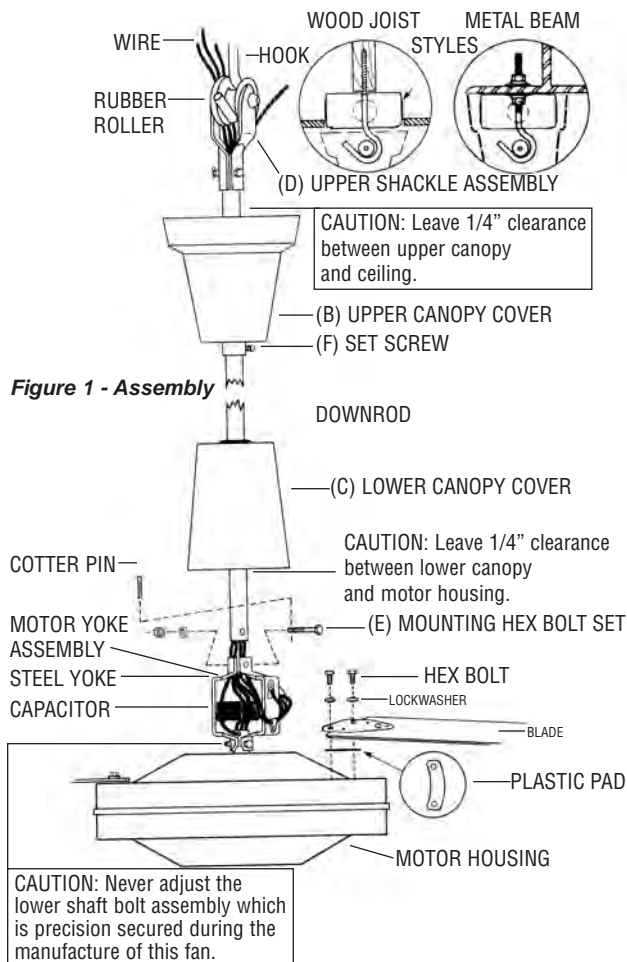

Figure 1 - Assembly
2. At the motor yoke assembly (A), remove the cotter pin and loosen the hexagon nut. Carefully remove spring washer and the hexagon screw (E). (See Figure 1)
3. Slide the upper canopy cover (B) (bell shaped) up the rod. Slide the lower canopy cover (C) up to rod.
4. Feed the three wires and the safety cable through the center hole in the steel yoke connecting piece above the motor (A) and then continue feeding wires and cable through the downrod until the wires and cable come out at the upper (shackle) end.
5. Mount the downrod to the yoke (A) and replace the hexagon screw. Secure the spring washer hexagon nut and spread the cotter pin.
6. Slide the lower canopy (C) to be a 1/4” minimum height above the motor.
**CAUTION:** Blades must be fastened to the motor as shown in Figure 1. DO NOT reverse blades when installing.